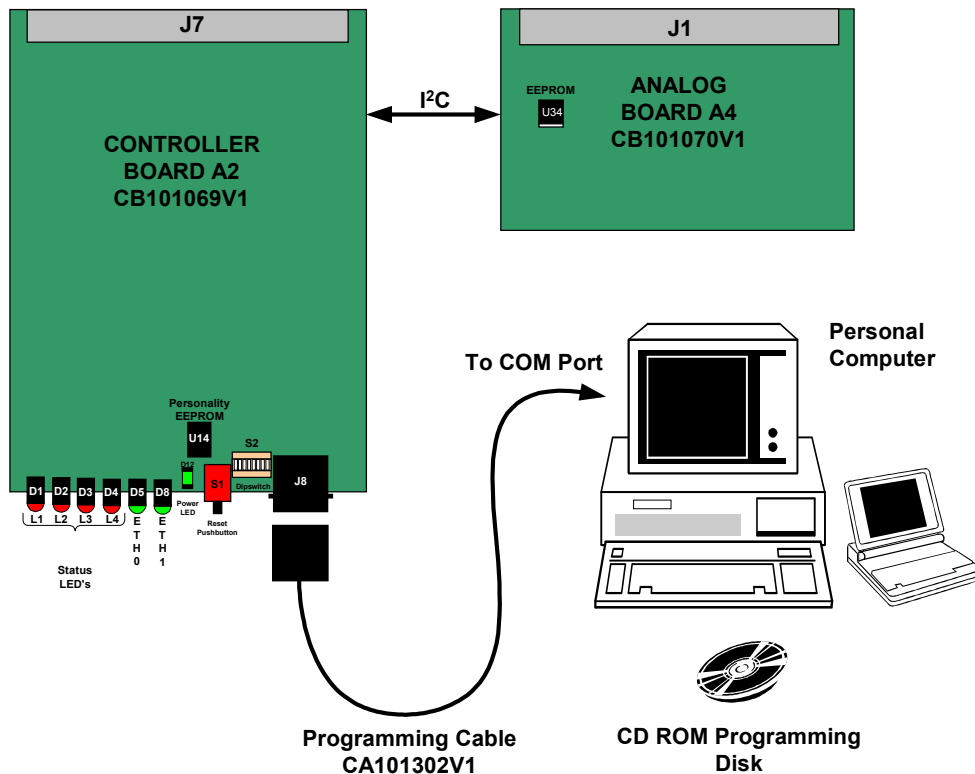
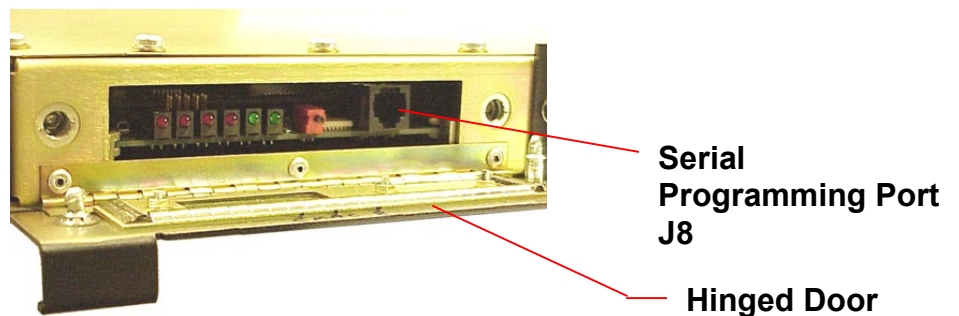

Figure 12 - Programming Hook-Up
Figure 13 - Location of Serial Programming Port J8
The personality programming process stores data in non-volatile regions of memory. The SitePro Controller shelf has its personality stored in two locations. The first location is EEPROM U14 on Controller Board A2 and contains general site level information. The other location is EEPROM U34 on Analog Board A4 and contains general channel level information. Programming is performed through serial programming port J8 on the front of the Controller Board (Figure 13 - Location of Serial Programming Port J8). Programming can also be accomplished through an Ethernet connection.
2. Connect one end of serial programming cable CA101302V1 (TQ3408) to the computer (Figure 12 - Programming Hook-Up). Connect the other end of the cable to the SitePro Controller Serial Programming Port J8 (Figure 13 - Location of Serial Programming Port J8).